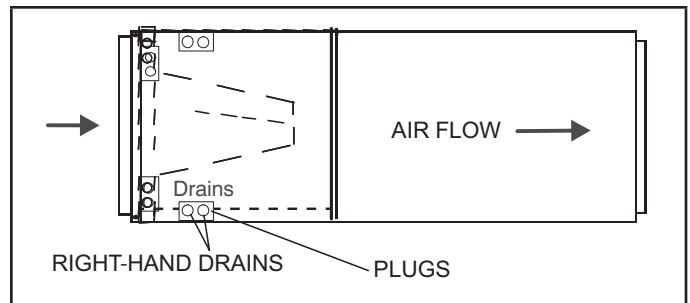

FIGURE 5. Right-Hand Discharge Configuration
- 4 - The horizontal configuration is shown in FIGURE 5.